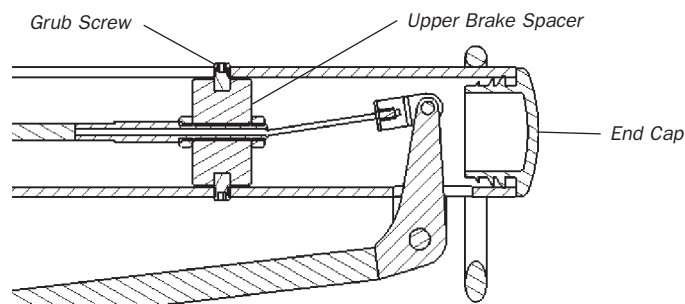

Figure 9.6.4.9 Upper Brake Spacer fitment
51. Install the TRAM Arm End Cap. See Figure 9.6.4.9.